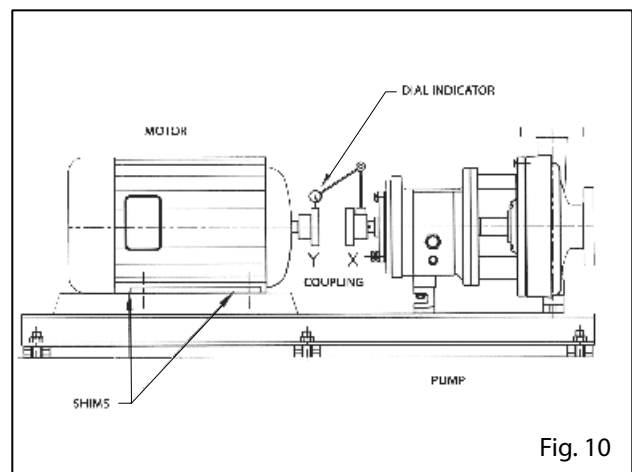

Fig. 10
- ∇ Vertical alignment: Consist of installing a dial indicator (see Figure 10) in the top half of the coupling "X" leaving it fixed, and four cardinal points in the half of the "Y" coupling are inspected. If readings exceed 0.002" (0.05mm), means that the motor is offset from the top down, install or remove equal amounts of shims at the motor feet, to correct the readings.